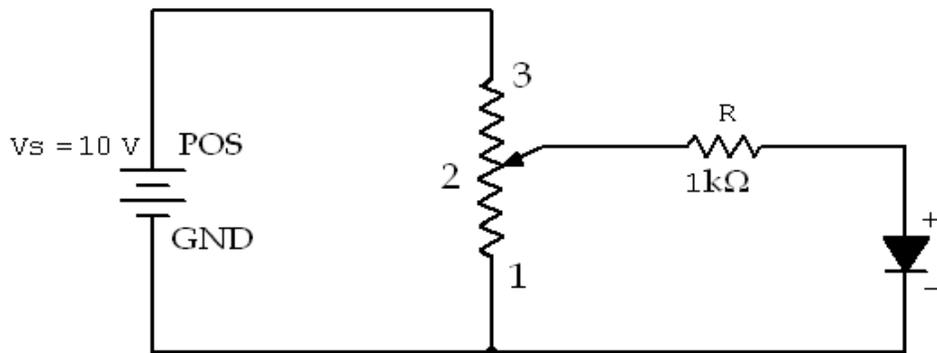

Figure 6. circuit for forward biasing a diode.
- 1) **Construct** the circuit as shown in Figure 6, using a potentiometer, 1 k Ω resistor and a silicon diode on the bread board. **Show** your connection to your instructor before switching the power supply on. Keep the source voltage around 10 V DC.
- 3) **Reverse** the direction of the power supply by interchanging POS and GND of your battery to obtain reverse biasing. This can also be achieved by interchanging the diode terminals in Figure 6. **Repeat** step 2 and **record** your results in Table 4. Do not forget to **show** your connections to your instructor before switching the power supply on.